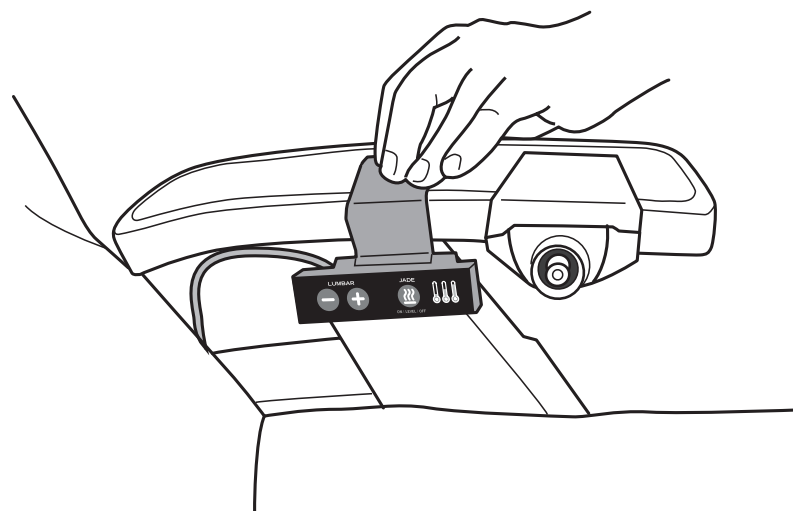

Fig.17
5. Place the control panel into position on the armrest, above the chair arm as shown (Fig.17).